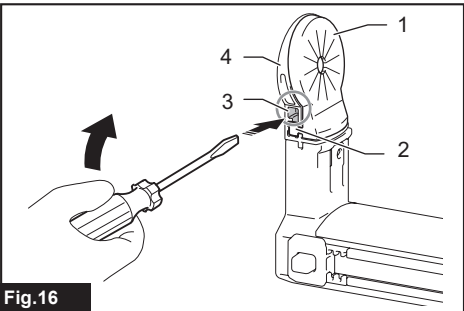

Fig.16
► Fig.16: 1. Sealing cap 2. Cube hook 3. Release hole 4. Nozzle head